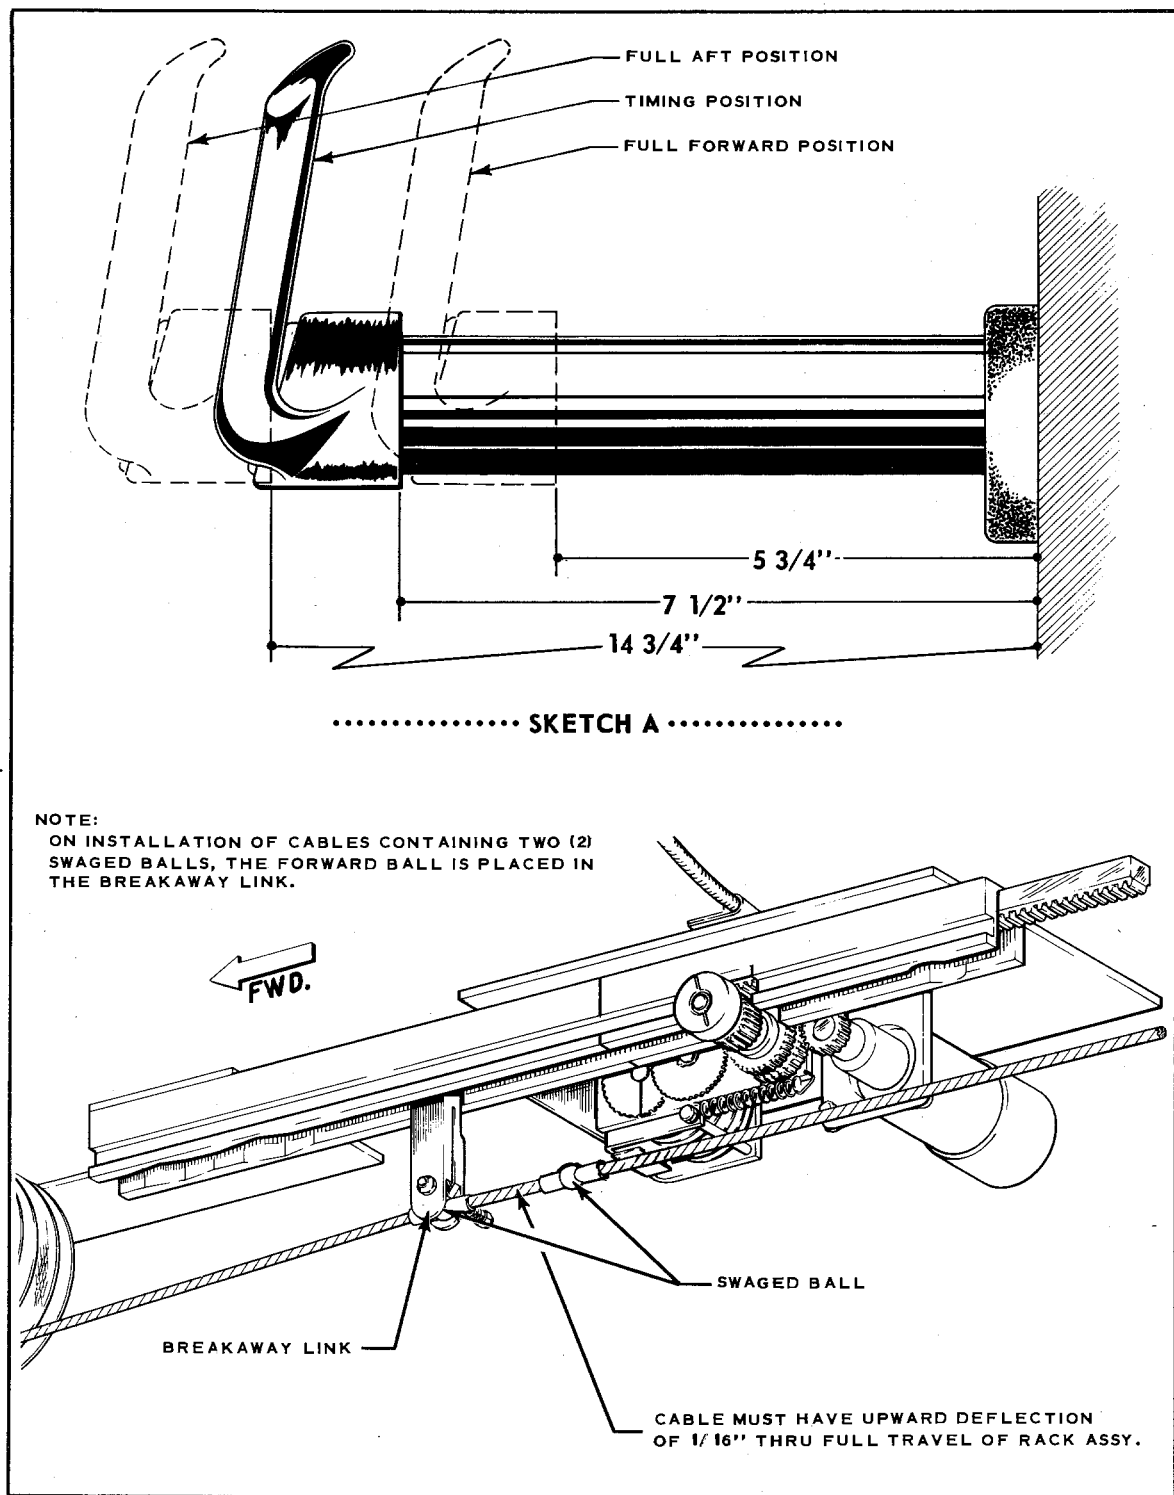

Figure 2-7a. Pitch Servo (1X312C) Installation
a. Pitch Servo - PA-24-250, PA-24-260, PA-24-400 and PA-30. (Refer to Figure 2-7a.)
4. Position the control wheel 7.5 inches from the instrument panel. (Measurement is taken from the instrument panel plate, along the underside of the control column to the control wheel hub.) (Refer to Figure 2-7a, Sketch A.)